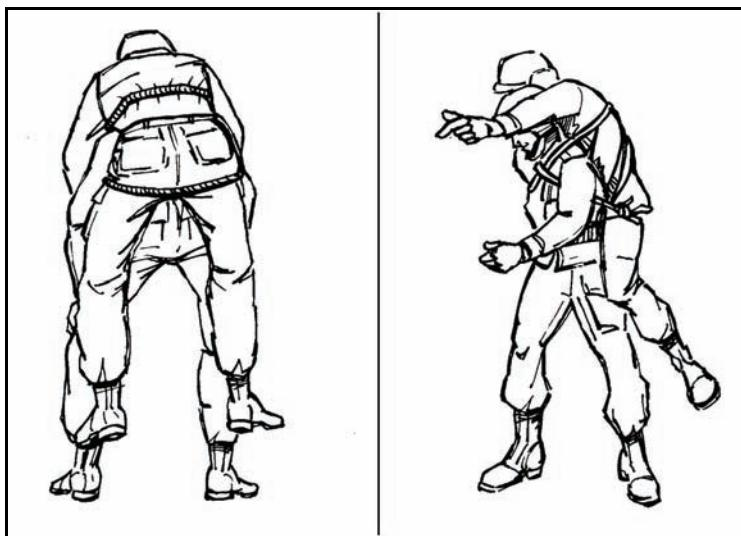

Figure 2-11. Patient secured to carrier's back.
- (1) To secure the victim to the carrier's back with a rope, the carrier ties a standard rappel seat (brake of choice, depending on the injury) and rests his hands on his knees while the victim straddles his back (Figure 2-11).